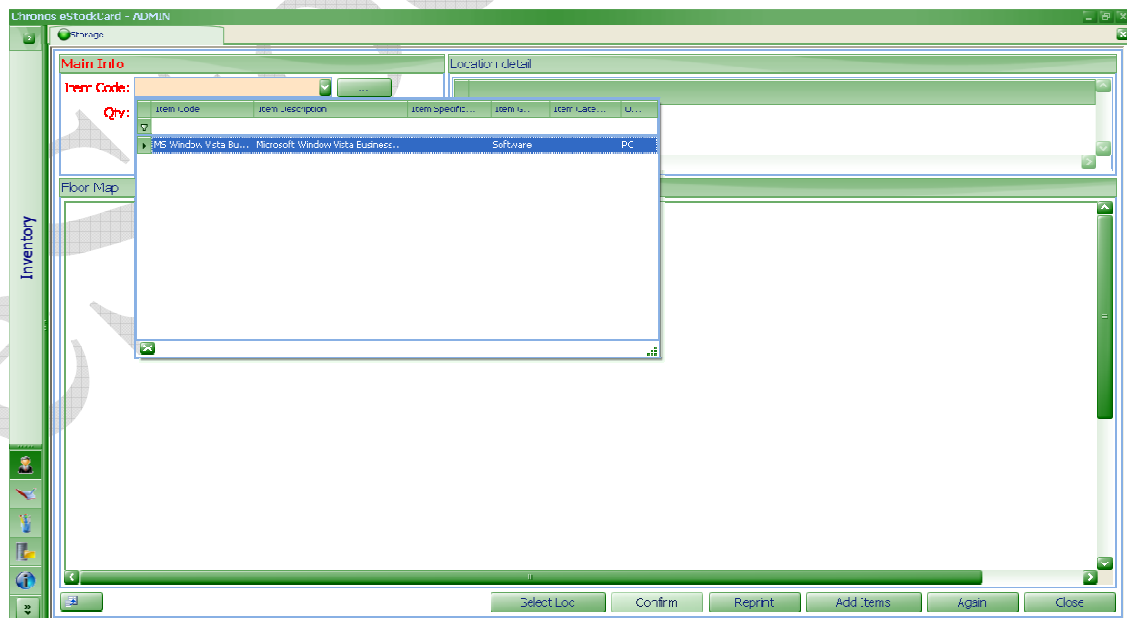

Fig. 32
Step 2 Select “MS Windows Vista Business” from item code drop down (Fig.32)